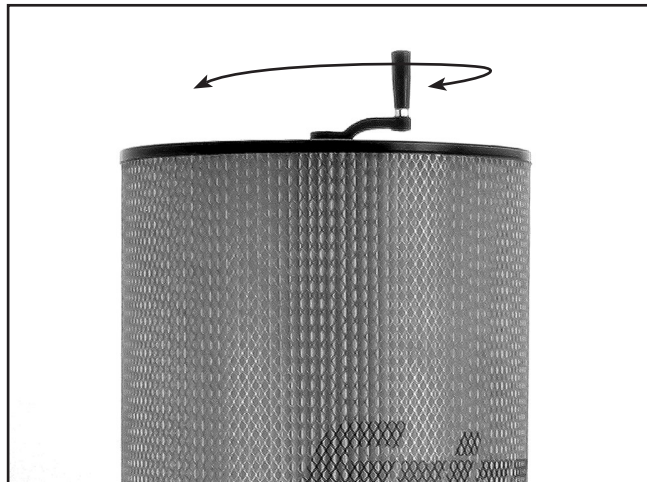

Figure 17. Rotate canister handle 360° back and forth.
1. Rotate the canister handle 360° in both direction to vibrate the pleated canister element and free trapped dust particles from the filter (**Figure 17**). The particles will fall into the collection bag.